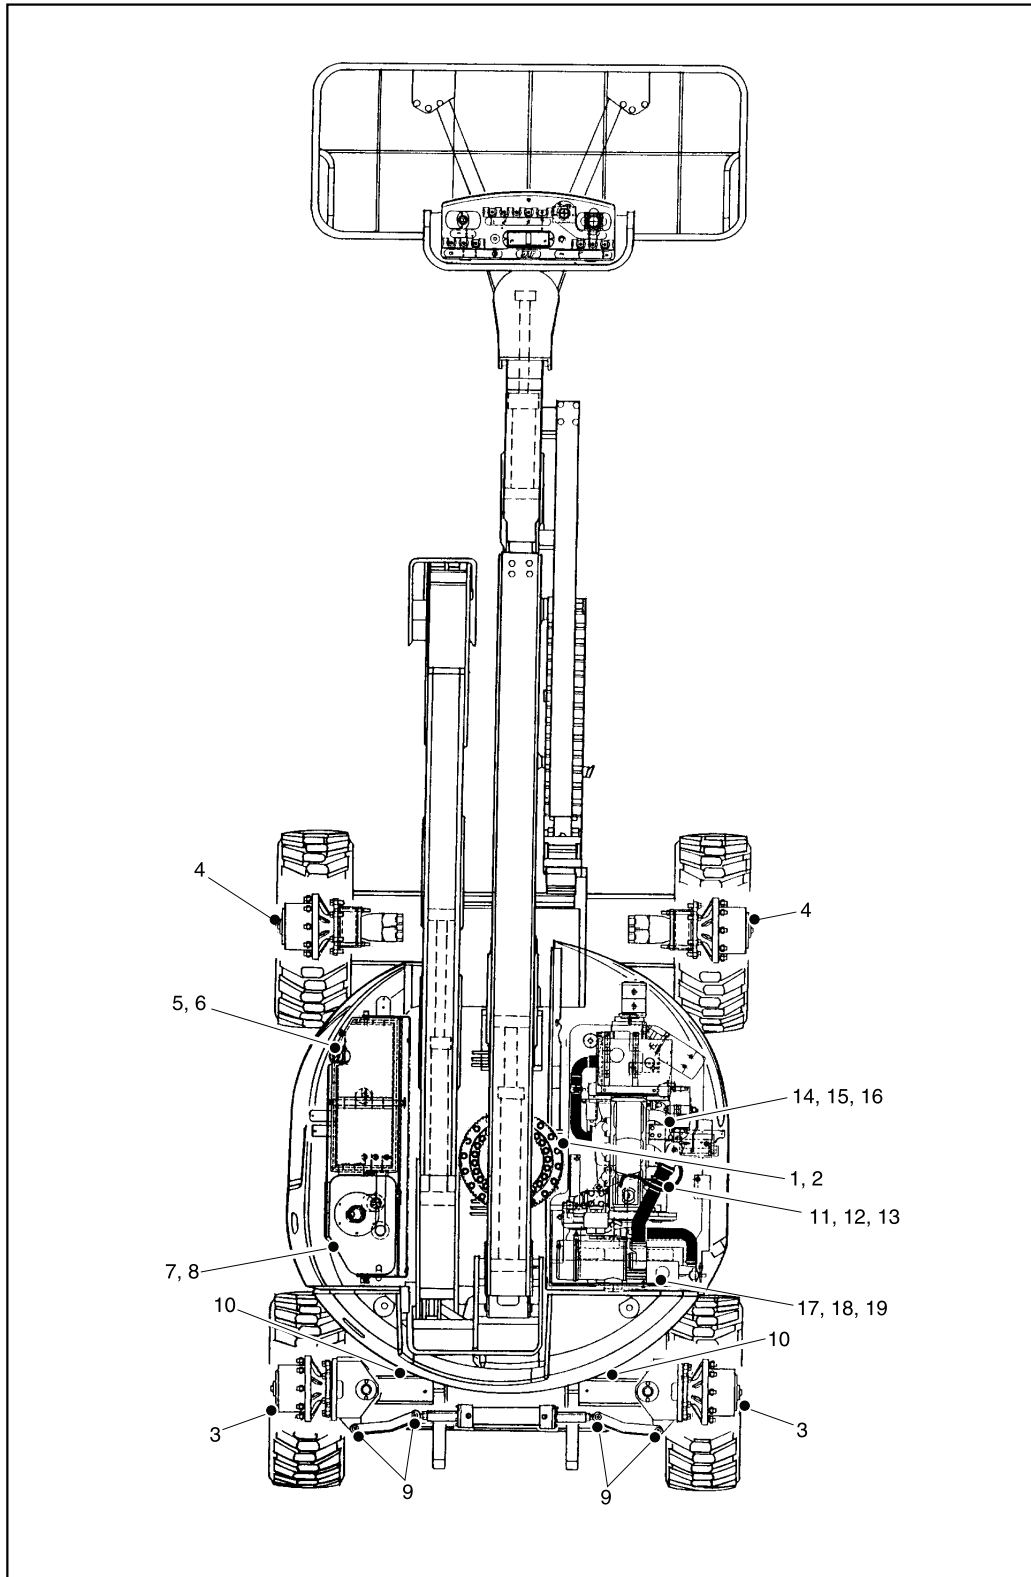

Figure 2-5. Lubrication Diagram
8. Assure that all items requiring lubrication are serviced. Refer to Figure 2-5., Lubrication Diagram for specific requirements.